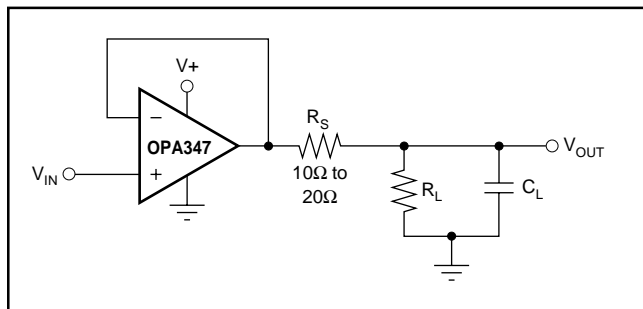

FIGURE 6. Series Resistor in Unity-Gain Buffer Configuration Improves Capacitive Load Drive.
The OPA347 in a unity-gain configuration can directly drive up to 250pF pure capacitive load. Increasing the gain enhances the amplifier's ability to drive greater capacitive loads (see the characteristic curve Small-Signal Overshoot vs Capacitive Load). In unity-gain configurations, capacitive load drive can be improved by inserting a small (10Ω to 20Ω) resistor,  $R_S$ , in series with the output, as shown in Figure 6. This significantly reduces ringing while maintaining Direct Current (DC) performance for purely capacitive loads. However, if there is a resistive load in parallel with the capacitive load, a voltage divider is created, introducing a DC error at the output and slightly reducing the output swing. The error introduced is proportional to the ratio  $R_S/R_L$ , and is generally negligible.